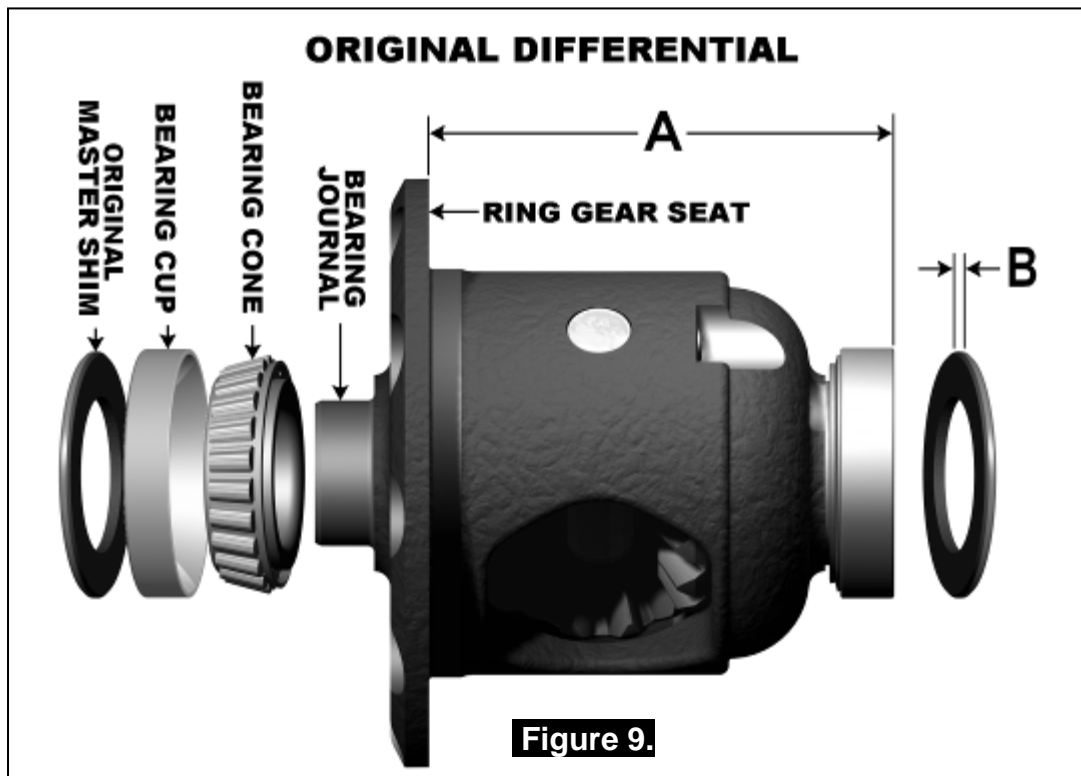

Figure 9.
- Using a caliper or similarly accurate measurement method (i.e., able to take accurate measurements within 0.04mm [0.0015"]), measure the distance from the shoulder of the outer face of the bearing cup to the ring gear mounting face (shown as 'A' in Figure 9.) and record this measurement as 'A'.
- Measure the thickness of the original master shim that was removed from the right-hand side of the original differential carrier (shown as 'B' in Figure 9.) and record this measurement as 'B'.